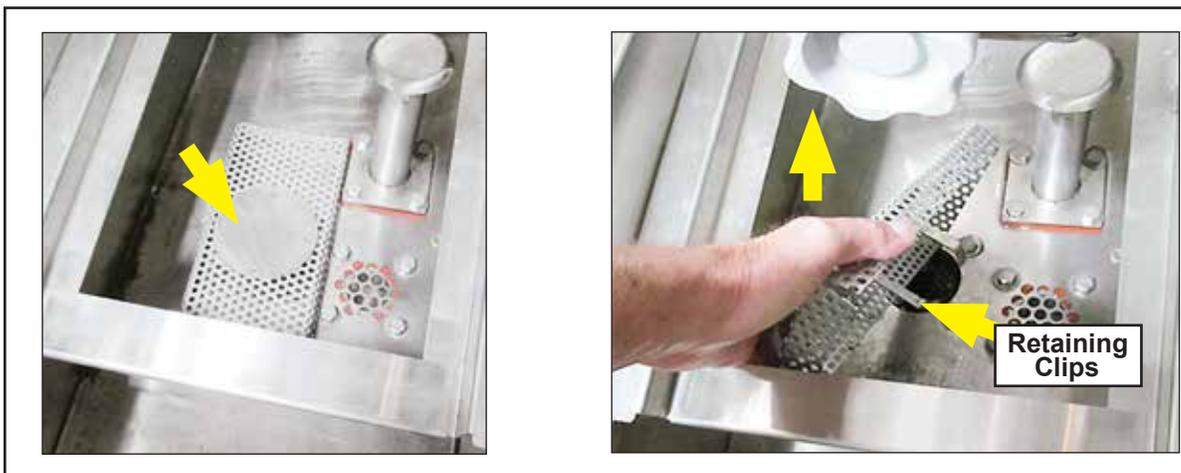

Fig. 70 - Prewash pump suction strainer
- 1 Wipe the float switches and probes with a soft cloth and mild detergent to remove food soils and lime build-up. Gently move the float switches to ensure they move freely, Fig. 70.